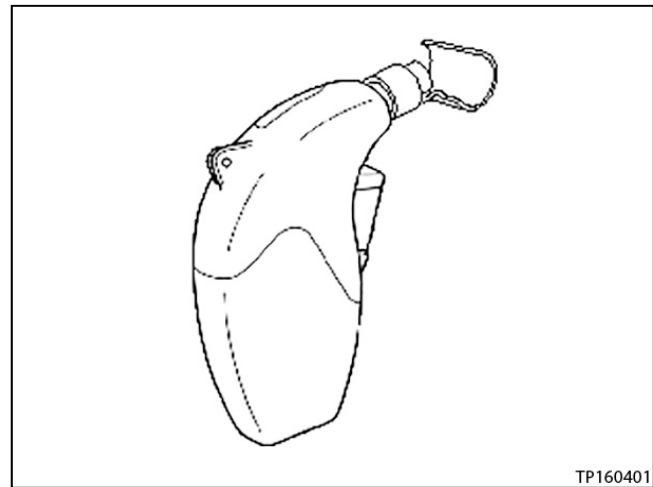

Figure 41
46. "Install" the solder sleeve connector by shrinking it to the wire with essential tool Flameless Heat Gun J-46538 or similar flameless heating tool (see Figures 41 and 42).